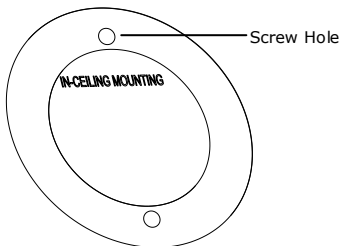

Figure 2-8 The Drill Template
6. Drill two screw holes according to the two circles on the drill template as shown in Figure 2-8.